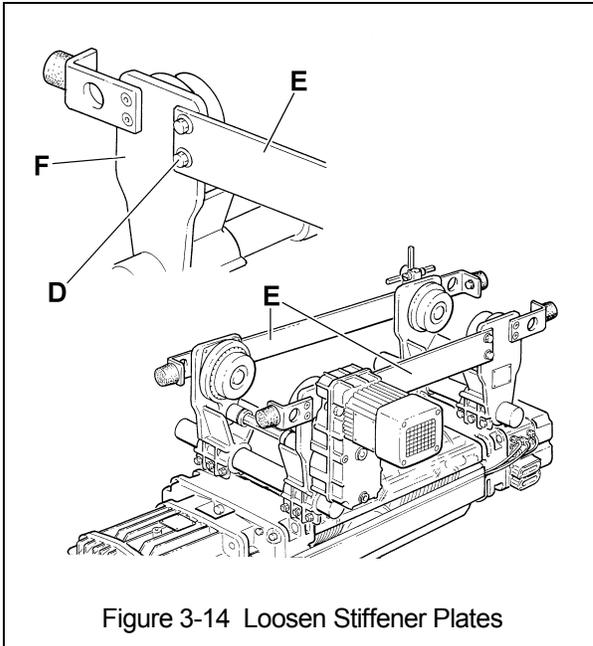

Figure 3-14 Loosen Stiffener Plates
- Loosen the Screws (D) that attach the Stiffening Plates (E) to Side Plates (F) and loosen the Lock-Nuts (G) on the Stirrups (H) that secure the Side Plates (F) to the Load Bars (J) so that the Side Plates (F) can move freely along the Load Bars (J) (see Figures 3-14 and 3-15).
- Slide the Side Plates (F) along the Load Bars (J) so that dimensions "A" and "C" match the values in Table 3-2 for the beam flange width. Verify that the distance "L" between the trolley wheel flanges is a maximum of 5/32" (4 mm) wider than the beam flange width. Mark the Stirrups (H) locations on the Load Bars (J) for future reference.
- On the Cable Trough side ONLY, use a torque wrench to fully tighten the Screws (D) attaching the Stiffening Plates (E) and the Locking Nuts (G) of stirrups (H) to the specified torque values shown in the Table 3-3.